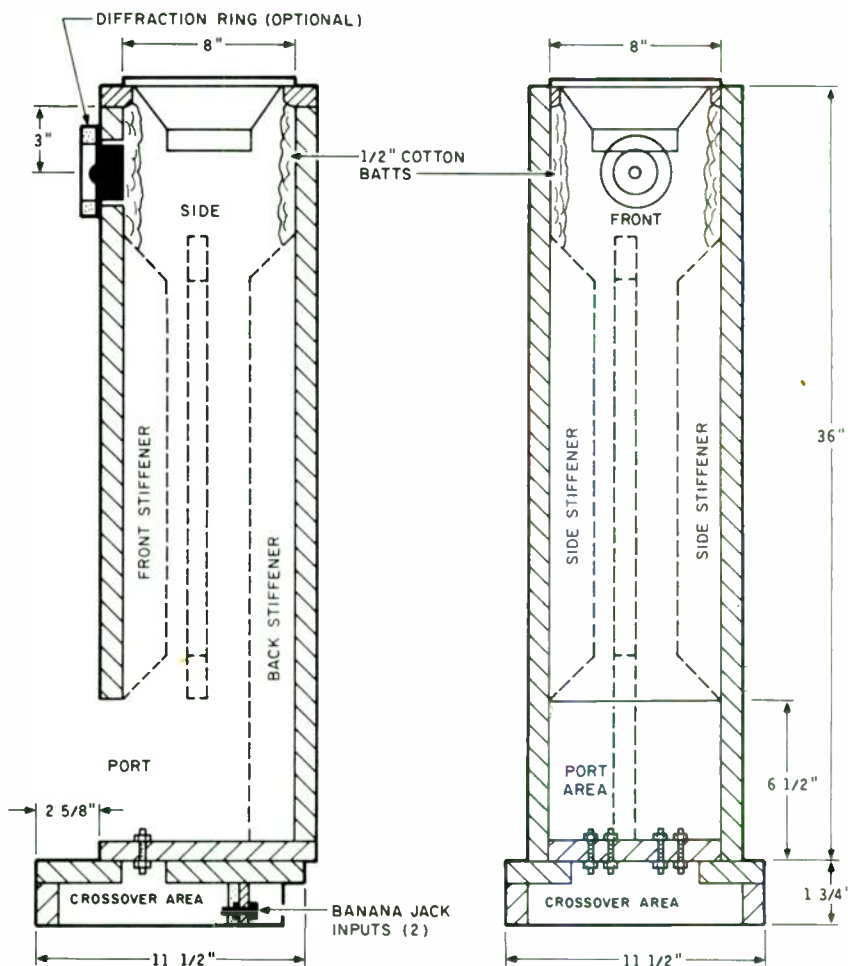

FIGURE 1: Front and side views of the Shortline.
**CONSTRUCTION DETAILS.** The construction of the Shortline is simplicity itself. The material used is 5/8 inch particle board shelf material from K-Mart and white glue. Cut out all the pieces, including the stiffeners and the base parts, before assembly (Figs. 1 and 2). It
Line the upper part of the enclosure (above the stiffeners) with about 1/2 inch of surgical cotton, stapled or glued (Fig. 1). At this time, only three of the sides are attached, but I used one long piece of cotton and folded the loose, final end over the fiberfill just before I glued on the remaining side.
**FINISHING TOUCHES.** It is desirable to mount a diffraction ring on the front of the tweeter (Fig. 1). These are available commercially, but I haven't seen them advertised recently. The sources might still offer the rings or have some old stock lying around. (Audio Concepts, 1631 Caledonia St., La Crosse, WI 54602, (800) 346-9183, sells a  $\frac{1}{8}$ " felt tweeter ring.—Ed.)